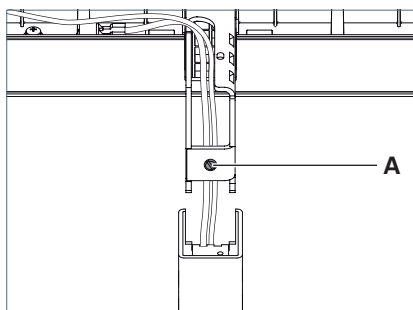

Fig. 14: Adjusting the luminaire head.
- ▶ To lift the luminaire head slightly, rotate the adjusting screw **A** one turn counter-clockwise, see Fig. 14.